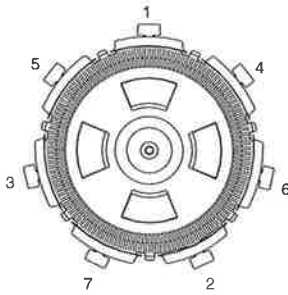

FIGURE 4 - 21" Filter clamp tightening sequence.
6. See Figure 4 for clamp tightening sequence. Tighten all clamp knobs securely hand tight.